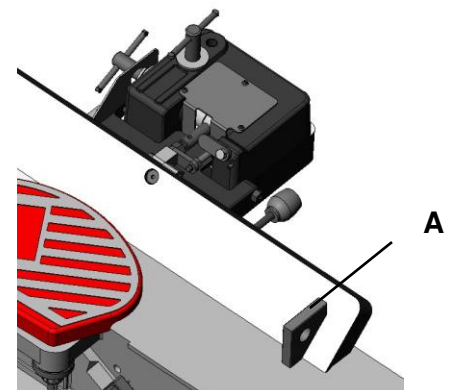

FIGURE 27
1. Loosen the lock handle (A). Move the stop plate (D) out of the way and position the fence at the 135° angle. Make sure the fence sits against the stop bolt. (E).
2. Tighten the lock handle (A)
3. Place an angle measuring device on the table and against the fence to confirm a 135° setting (A Fig.27).
4. To adjust, loosen the lock nut (F), turn the stop bolt (E) until a 135° angle is obtained.
5. Tighten the lock nut (F).